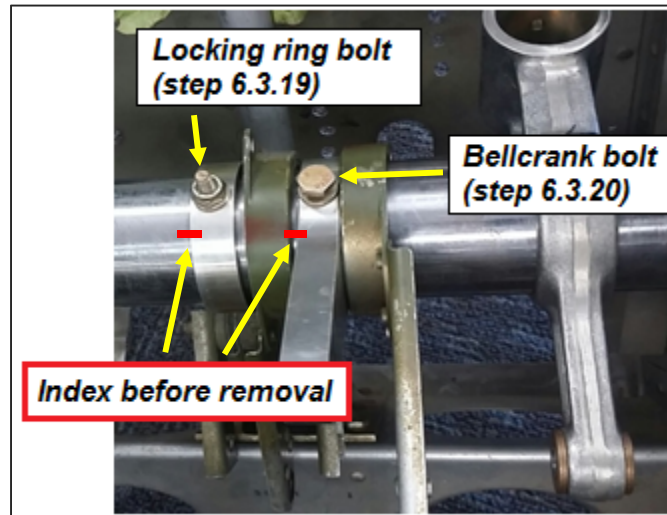

Figure 13. Locking Sleeve and Collective Bellcrank
6.3.19 Index the locking sleeve, then remove one locking ring bolt (Figure 13).
6.3.20 Index the collective bellcrank, then remove one collective bellcrank bolt (Figure 13).